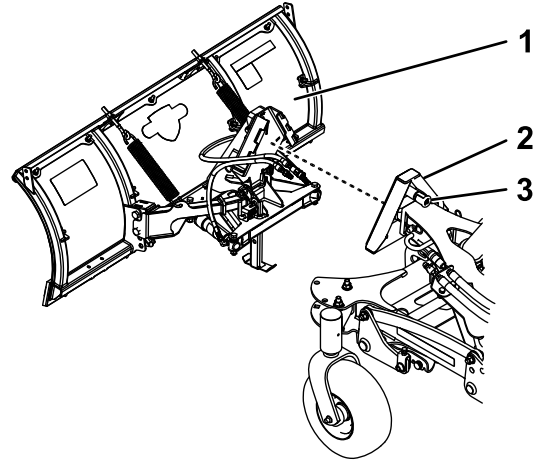

Figure 12
1. Ensure that the plow is sitting upright, with the kickstand lowered (Figure 12).
3. Slowly drive forward until the A-frame coupler contacts the plow coupler (Figure 12).
4. Raise the A-frame until the coupler pin locks into place (Figure 12).
7. Connect the angle-cylinder hydraulic hoses to the quick disconnects on the machine (Figure 12).